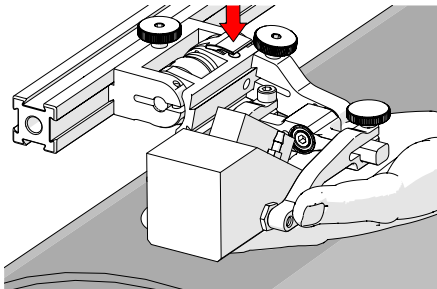

Fig. 53 - Lift and press latch button
3. Lift the probe slightly and press the latch button (*Fig. 53*) to apply spring pressure to the wedge.